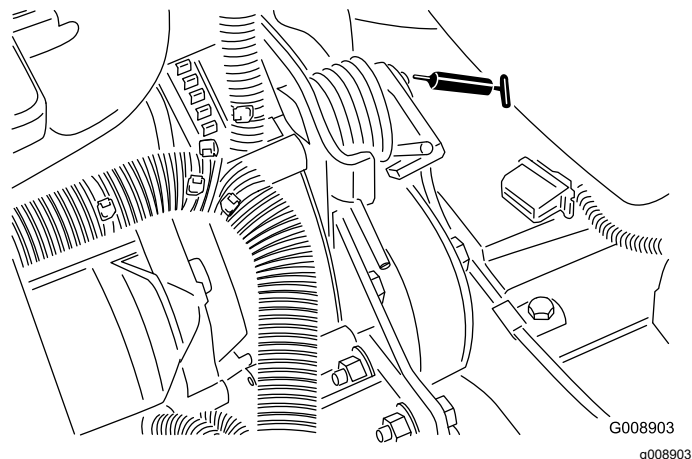

Figure 65
- Belt tension pivot (Figure 65)